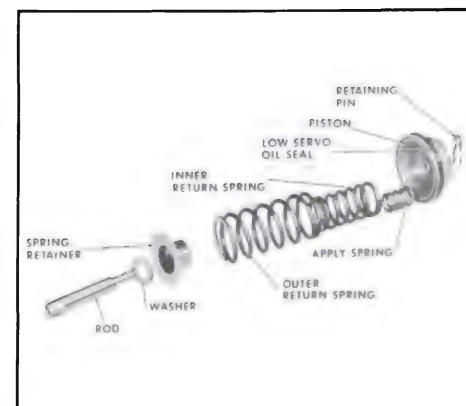

Figure 5-180
1. Assemble the inner and outer return springs into the piston. Install spring retainer. See Figure 5-180. Install this assembly into the ram press as shown in Figure 5-180.